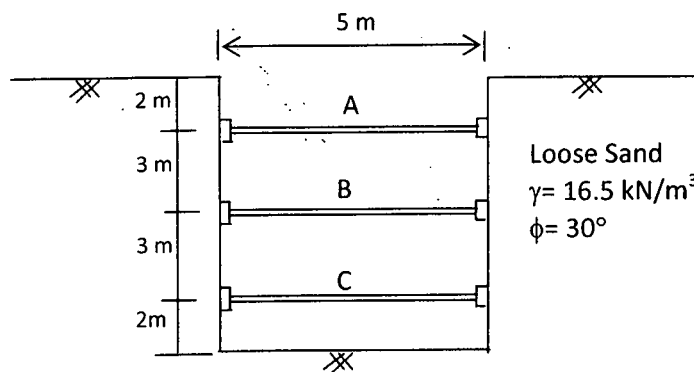

Fig. 4. for Q. 3(c)
(c) A bracing system for an open cut is shown in Fig. 4. Determine the force in the struts A, B and C. The struts are spaced 3 m center to centre horizontally. (13 ⅓)
- (b) A one story building is idealized as a rigid girder supported by weightless columns, as shown in Figure 4. In order to evaluate the dynamic properties of this structure, a free vibration test is made, in which the roof system (rigid girder) is displaced laterally by a hydraulic jack and then suddenly released. During the jacking operation, it is observed that a force of 20 kips [9.072 kg] is required to displace the girder 0.20 in [0.508 cm]. After the instantaneous release of this initial displacement, the maximum displacement on the first return swing is only 0.16 in [0.406 cm] and the period of this displacement cycle is  $T = 1.40$  sec. From these data, find out a) Effective weight of the girder b) Undamped frequency of vibration c) Logarithmic decrement d) Damping ratio e) Damping coefficient f) Damped frequency g) Amplitude after six cycles. (12)